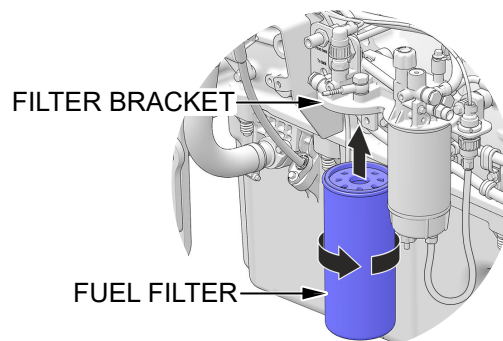

Figure 57. Fuel Filter Replacement
1. Clean around the **fuel filter** (Figure 57).
3. Clean the filter mating surface on the **filter bracket** (Figure 57).